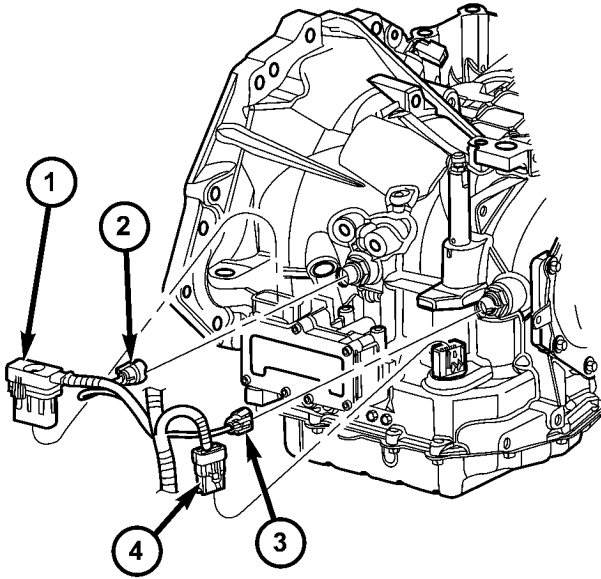

Fig. 288 Transmission Connectors
- (1) Disconnect battery negative cable.
- (2) Disconnect input speed sensor connector (Fig. 288).
- (3) Connect speed sensor connector (Fig. 288).
- (4) Connect battery negative cable.